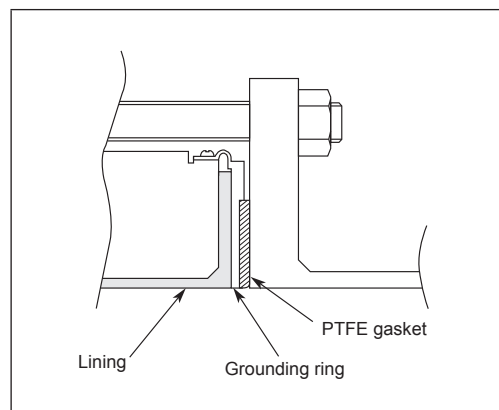

Fig. 2-12. Installation using Non-SUS material grounding ring and metal pipe
- Install the detector as shown in Fig. 2-12. See Table. 2-1 on page 2-8 for the appropriate fastening torque.